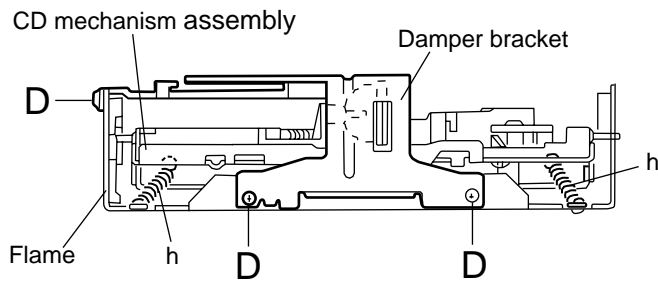

Fig.6
■ Removing the bottom cover (See Fig.6 and 7)